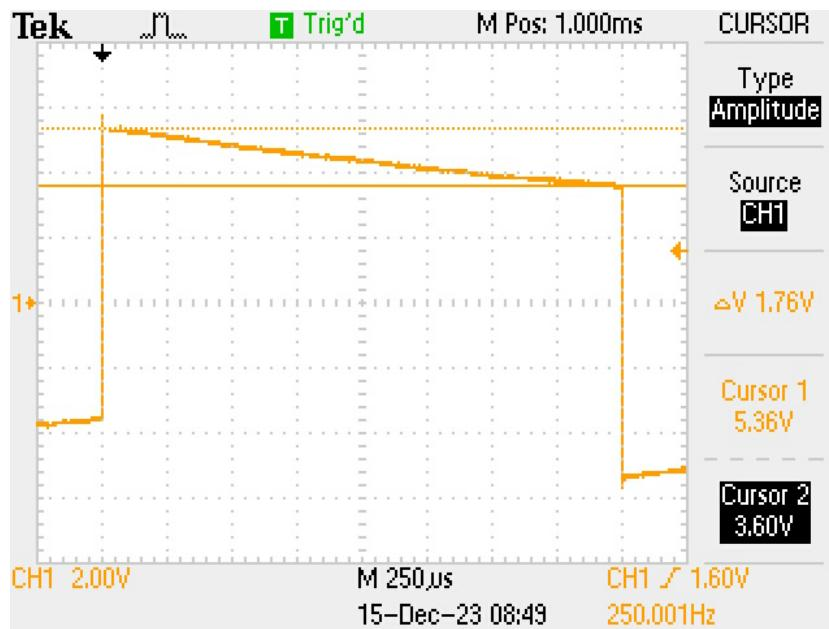

Figure 2.3: Measuring Vmax & Vmin on a Tilt waveform
2. Expand the waveform across the display of the oscilloscope using the horizontal control, see Fig 2.3.
3. Use the cursors to measure Vmax and Vmin of the pulse, see Fig 2.3. Cursor 1 (Vmax) is 5.56V and Cursor 2 (Vmin) is 3.6V.